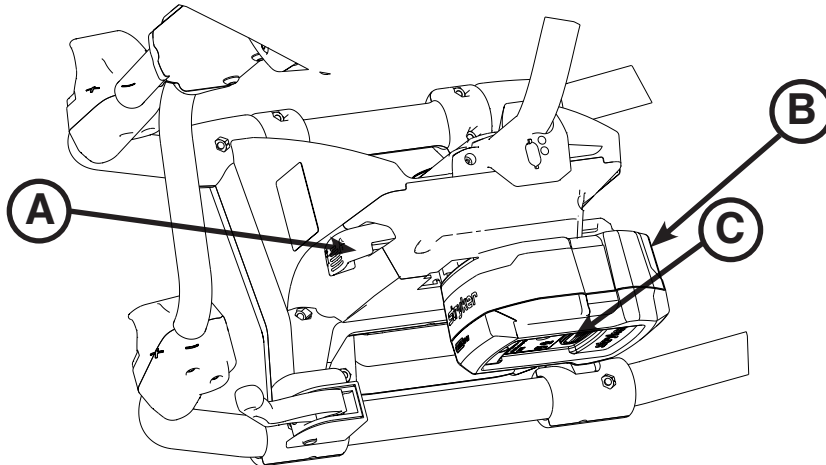

Figure 20: SMRT Pak Removal and Replacement
1. Press the RED one hand release button (C) or press the battery release button (A) to release the SMRT Pak (B) from the cot as shown in Figure 20.